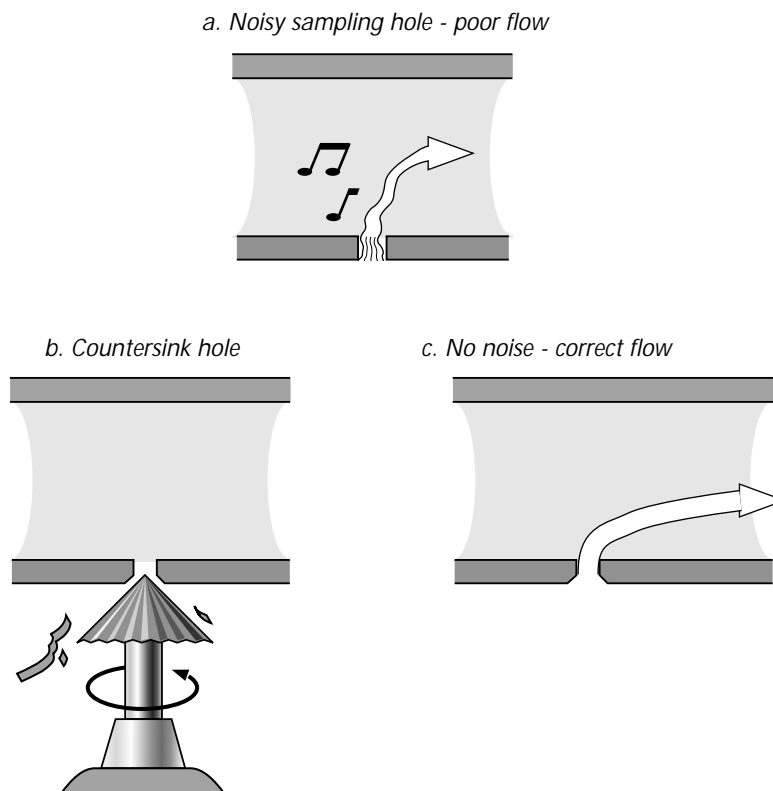

Fig. 6 *Modifying sampling holes to reduce noise.*
1. Countersink the inlet to the hole to remove the sharp-edged 90° turn into it. This smoothes the air flow and reduces the depth of the hole itself. It is recommended eye protection is worn. See figure 6.